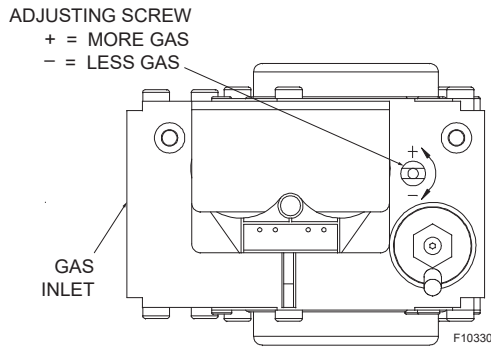

Figure 42. Gas Valve
2. To increase the manifold pressure and increase the ratio of fuel to air turn the adjustment screw counterclockwise (toward the +) (See **Figure 42**). For example, a reading of -2.0" WC (-0.5 kPa) can be increased to -1.5" WC (-0.4 kPa) by turning the adjustment screw counterclockwise. Increasing manifold pressure will increase the CO₂ percentage in the flue gases.
3. To decrease the manifold pressure and decrease the ratio of fuel to air turn the adjustment screw clockwise (toward the -) (See **Figure 42**). Decreasing manifold pressure will reduce the CO₂ percentage in the flue gases.